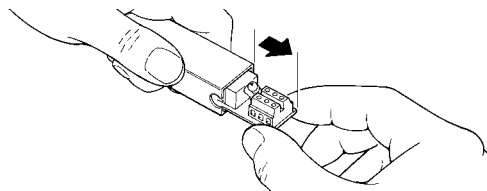

Fig. 4
- 6 Pull the board out a few centimetres, as shown in figure 4.